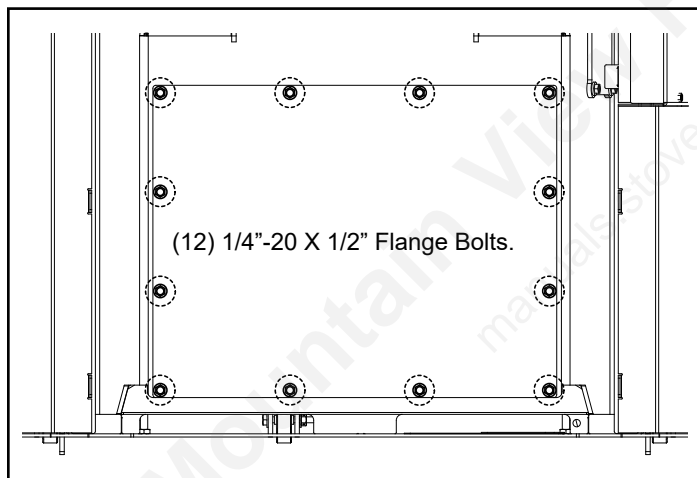

Figure 2
Remove (4) 1/4"-20 X 3/8" flange bolts. Figure 2.